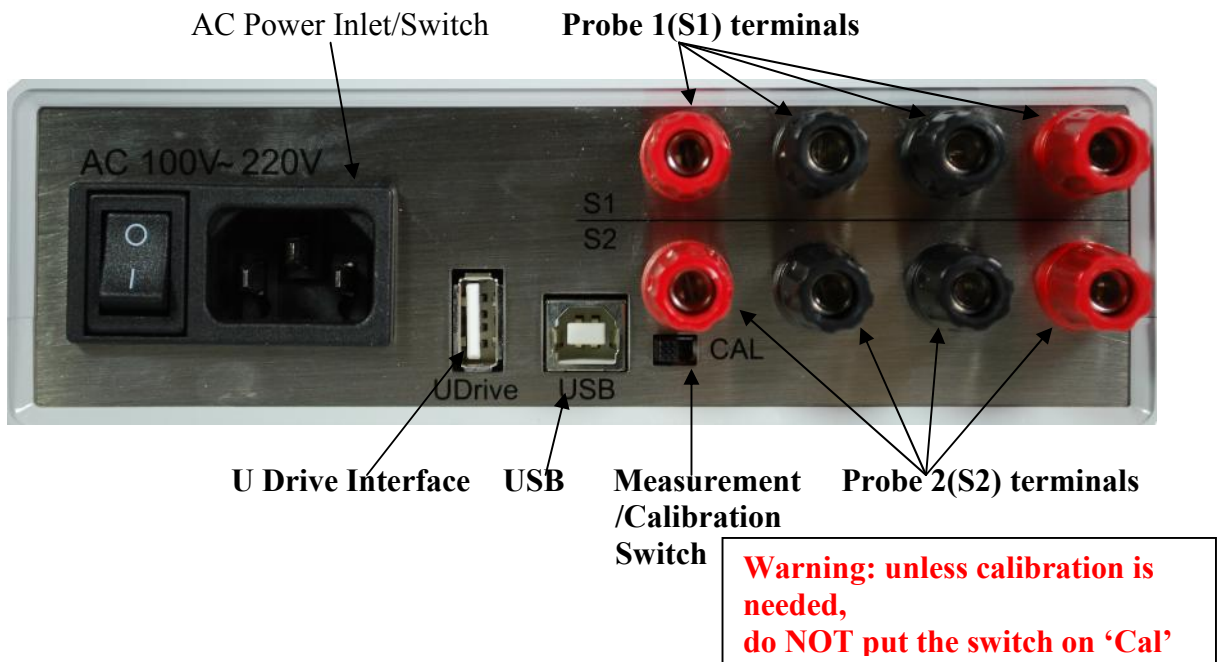

Figure 2: Rear Panel
- ❖ **Check the position of the “Measurement/Calibration Switch” on the rear panel before turning on the device. Please refer to Figure 2. The switch must be at the measurement (left) position. Loss of calibration data will occur if the switch is at the calibration (CAL) position when the instrument is used in measurement application.**